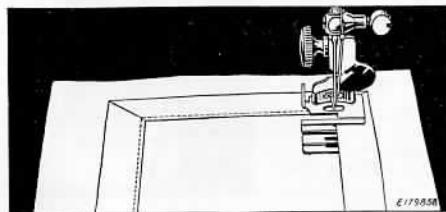

Fig. 58. Applying Bias Folded Tape
2. To make square corners, sew to turning point, remove tape from attachment, form corner by hand, replace tape and continue stitching. See **Fig. 58**.